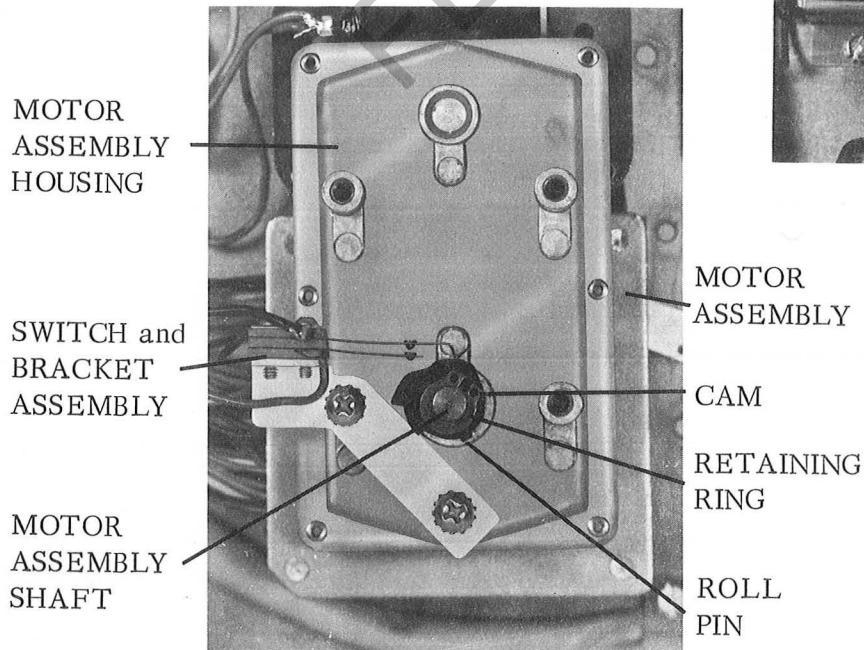

Figure 3.
16. Install ROLL PIN, Part No. 73782-32, in MOTOR ASSEMBLY SHAFT as shown in Figure 3.
17. Verify that MOTOR ASSEMBLY is in normal rest position then install CAM, Part No. 136524, on MOTOR ASSEMBLY SHAFT as shown in Figure 3.
18. Install RETAINING RING, Part No. 125797, on MOTOR ASSEMBLY SHAFT as shown in Figure 3.
19. Install and position SWITCH and BRACKET ASSEMBLY, Part No. 137884, on MOTOR ASSEMBLY HOUSING as shown in Figure 3. Secure SWITCH and BRACKET ASSEMBLY to MOTOR ASSEMBLY HOUSING with two Screws, Part No. 73533-25. Do not tighten screws at this time.
20. With V portion of switch blade resting on CAM as shown in Figure 3, adjust switch so that contacts are open .015" minimum. Tighten screw.